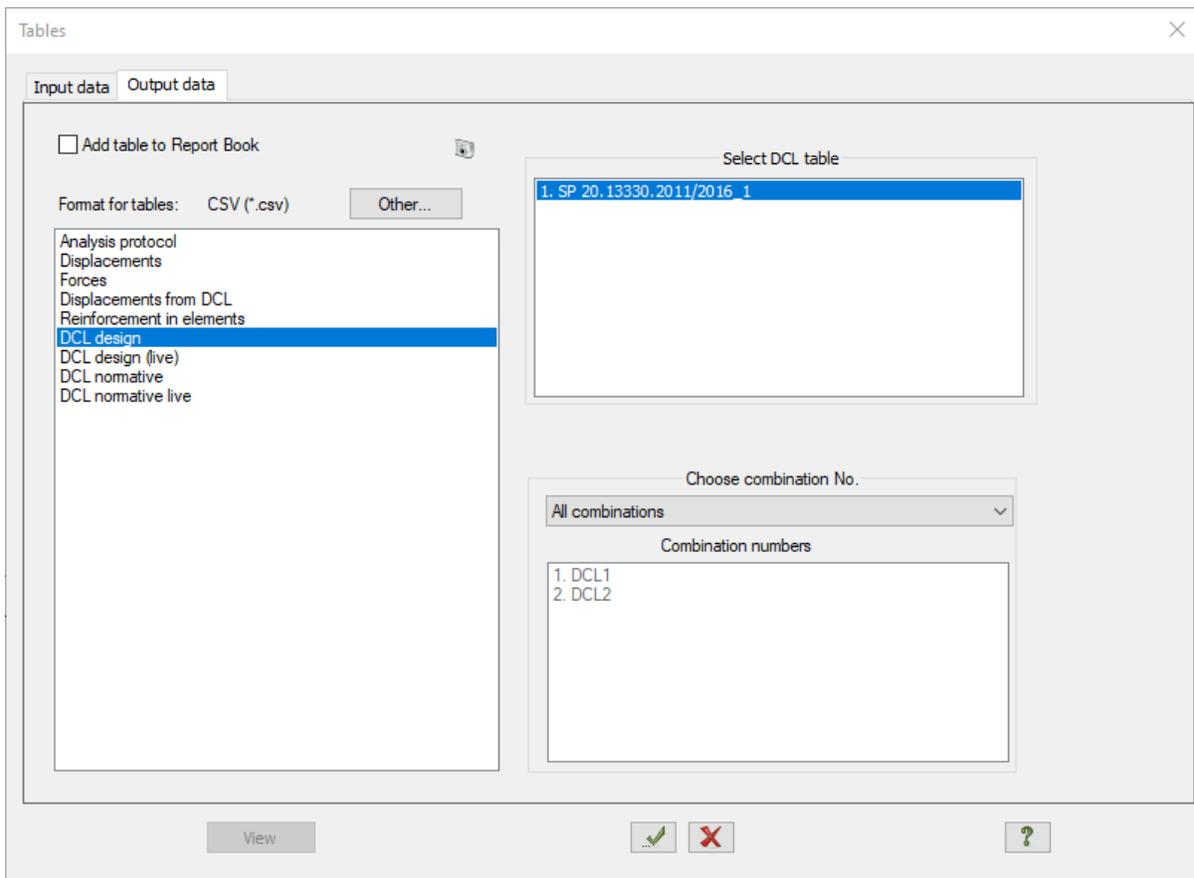

Figure 19.26 **Standard tables** dialog box
- ➔ In the **Standard tables** dialog box (see Fig.19.26), select **DCL design** in the list.